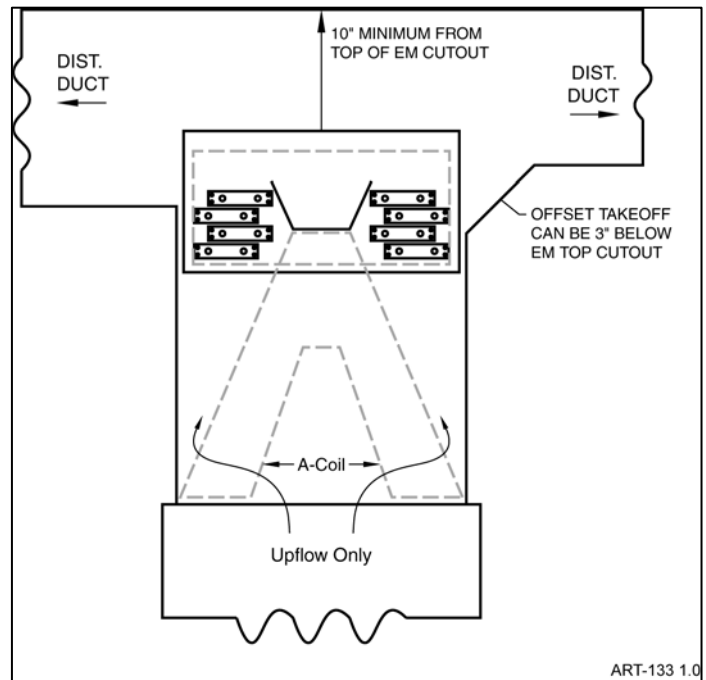

Figure 1
- a. No A-Coil – follow drawing (figure 1, page 6); ignore the sketched in “A-coil”. Notice all distribution ducts or pipes must be above HeatChoice elements with 1Ø" minimum clearance at top. If ample amounts of height is available, center unit between furnace top and lowest take-off duct.
- b. Air Conditioning A-Coil – follow (figure 1, page 6). The HeatChoice must be **above** A-coil and **parallel** to A-coil. Again, all distribution ducts must be above the HeatChoice.
Using (figure 1) and visualizing the HeatChoice installation, work through the following eight steps: